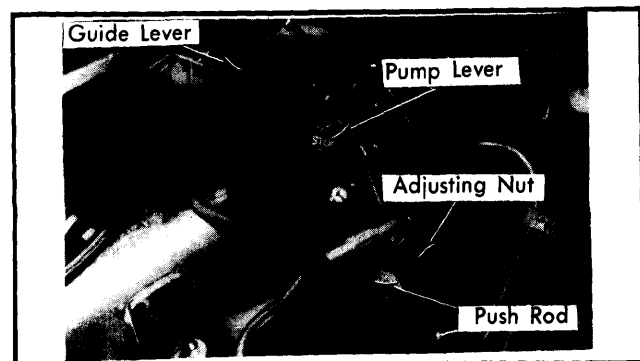

Fig. 4 Injection Linkage Adjustment (Non-Turbo Models)
- 3) On non-Turbo models, adjust push rod so guide lever cam is just resting against switch-over valve lever (free of tension). Injection pump lever should be resting against idle speed stop. Push shutoff lever ("STOP") and ensure cruise control cable is not too tight. Adjust by turning cable nut. When lever is released, a slight amount of clearance should be present. See Fig. 4.